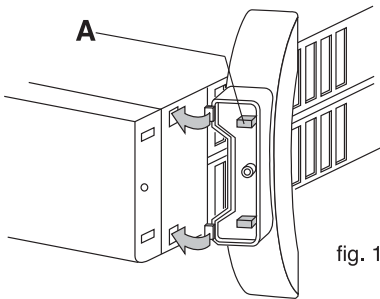

fig. 1
- 1 Insert the anchor pins (A) into the slots and turn the foot until it clicks into position (fig. 1).